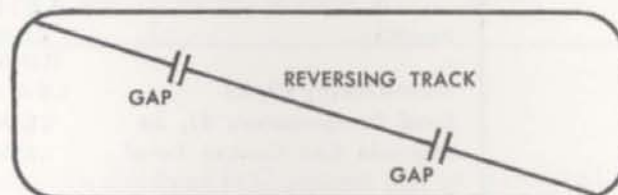

Fig. 6-4
- Connect the two blue wires from the reversing switch to the turning track or reverse loop. This track must be insulated at both ends as in Fig. 6-4